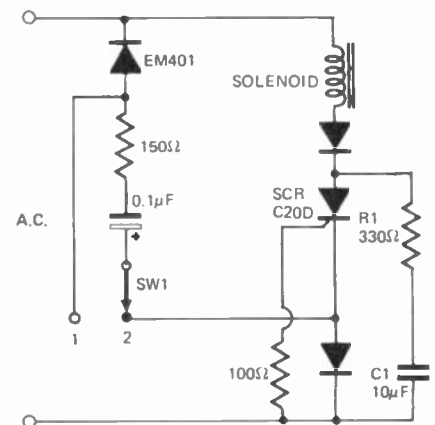

FIG. 2
An unusual timing circuit is that shown in Fig. 2. This circuit is often used in electrically powered stapling machines, impulse hammers etc, and causes load current to flow through the load for one complete half-cycle of the ac supply whenever SW1 is actuated (i.e. moved from its normal position (1) to energise-load position (2)). The circuit is arranged so that the SCR is always triggered at the beginning of a positive half-cycle of the ac supply, even though the switch may be closed randomly at any time during the previous two preceding half-cycles.